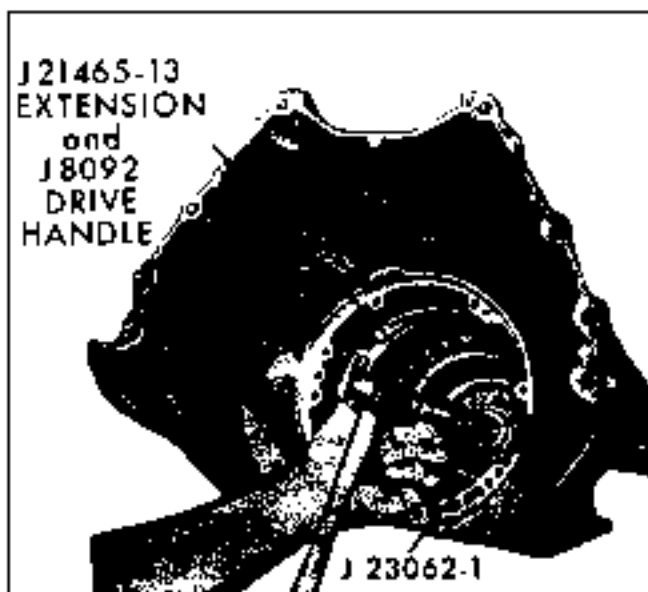

Fig. 7G-95 Installing Case Bushing
- b. Using Bushing Tool J 23062-1, Extension J 21465-13 and Drive Handle J 8092, drive new bushing in from front of case to $3/16$ " below front surface of bore (Fig. 7G-95).